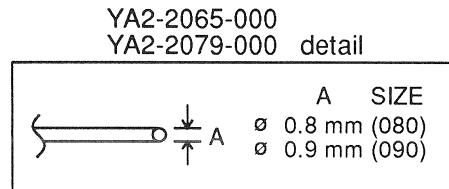

Fig. 3-19 G10/16 Snap Ring Adjustment Sizes
- Refer to Fig. 3-19 G10/16 Snap Ring Adjustment Sizes for details.